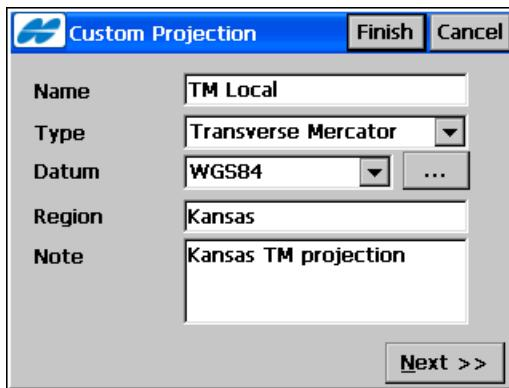

Figure 3-11. Custom Projection – Add New Custom Grid System
- **Edit** – opens the **Custom Projection** screen (Figure 3-11 on page 3-14) to edit parameters of the selected custom grid system.
- **Add** – opens the **Custom Projection** screen (Figure 3-11 on page 3-14) to enter parameters for the new custom grid system.
On the **Custom Projection** screen, enter or select the following parameters for the custom grid (Figure 3-11).